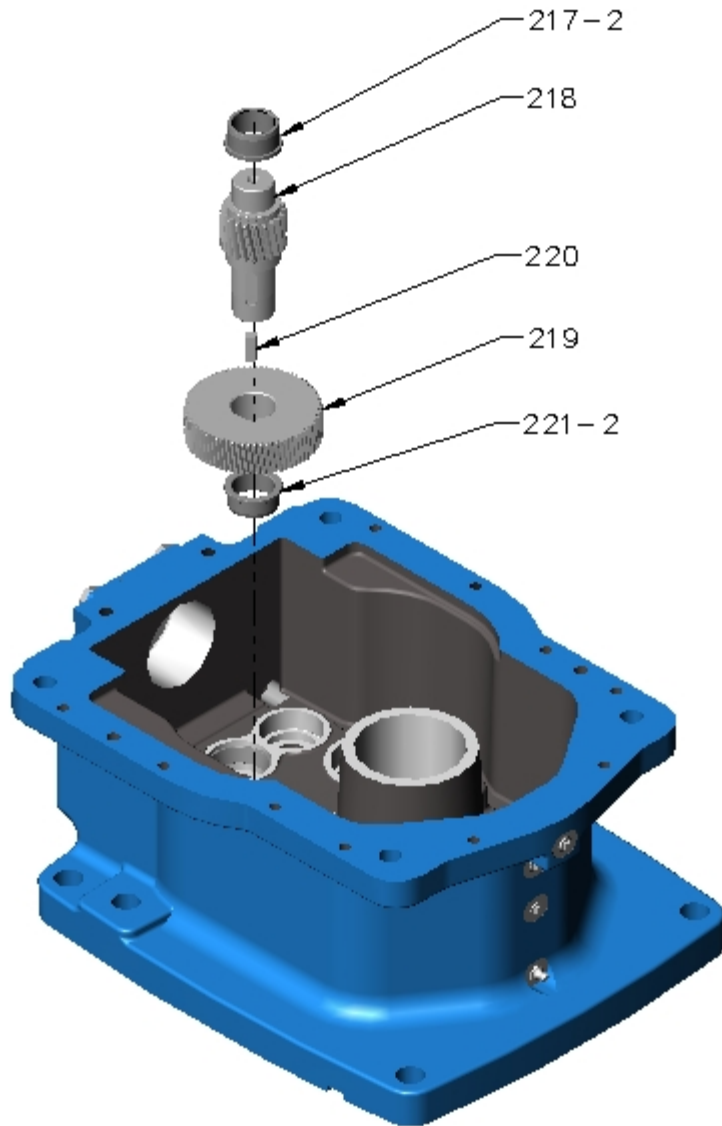

Figure 8 – Intermediate Shaft
- K. Remove intermediate shaft assembly (refer Figure 8).
- L. Intermediate shaft disassembly (refer Figure 8):